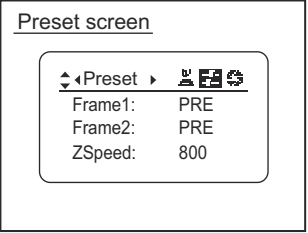

Fig1-5
3. Preset screen  ..... (See Fig. 1-5 below)